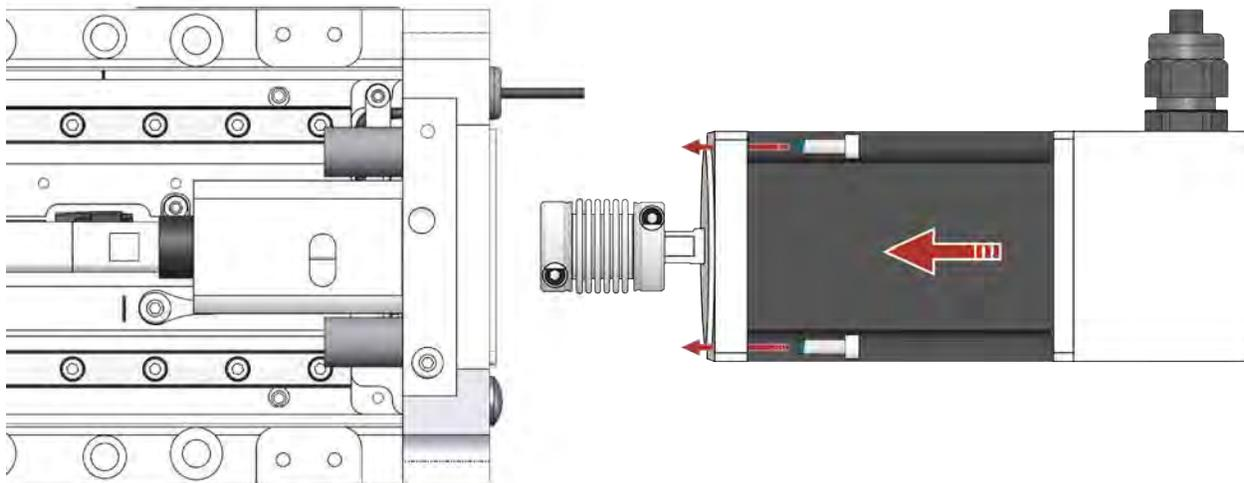

Figure 4-5: Attach the Motor to the Stage
6. Attach the Motor to the Stage in the correct orientation (Figure 4-5). Use a hex wrench to ensure that the motor flange is fully seated and the hardware is tight. The motor housing prevents the use of a torque wrench.